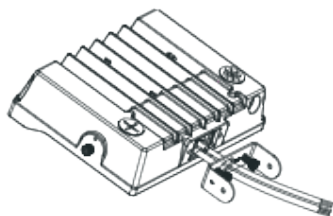

figure 6.1
Step 2: Run the glue wire through the hole in the mounting bracket and secure the fixture and bracket with an inner hexagon screw (Watch out not to scratch the glue wire) (Figure 6.1); Tighten the other bracket with screws. (Figure 6.2)